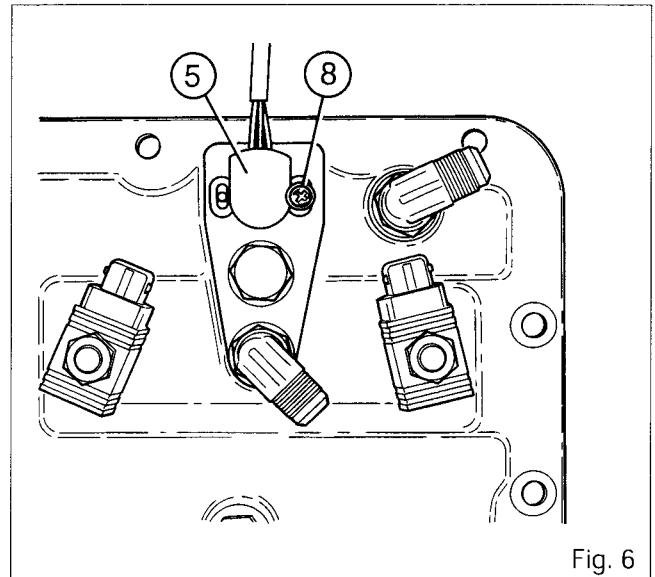

Fig. 6
38. Reinstall the temperature probe (if fitted), the Hare/Tortoise contactor with seals (2), the couplings (9) and (23), and the solenoid valves (3) and (11), tightened to a torque of 20 Nm.
39. Fit the position sensor (5) and its seal, and the attaching bolts (8) positioned in the centre of the elongated holes (Fig. 6).